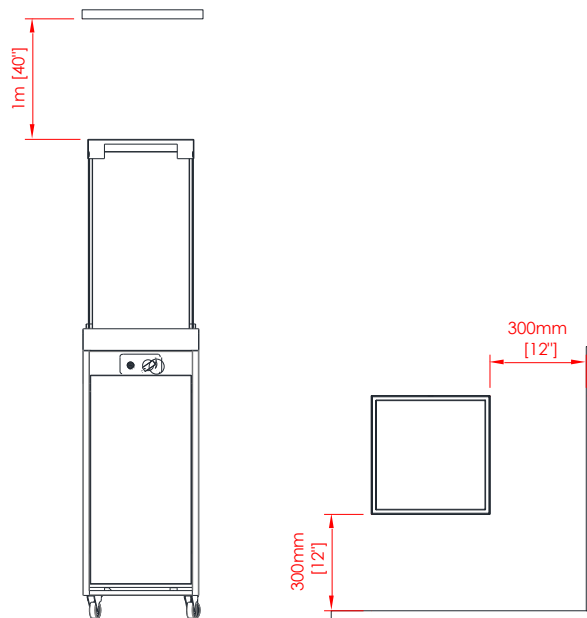

Fig 2 – Minimum distances
- This appliance must be kept away from flammable materials during use. Do not place any combustible materials within a distance of 0,3 m (12") of FARO and 1 m (40") over the appliance (*Fig 2*).